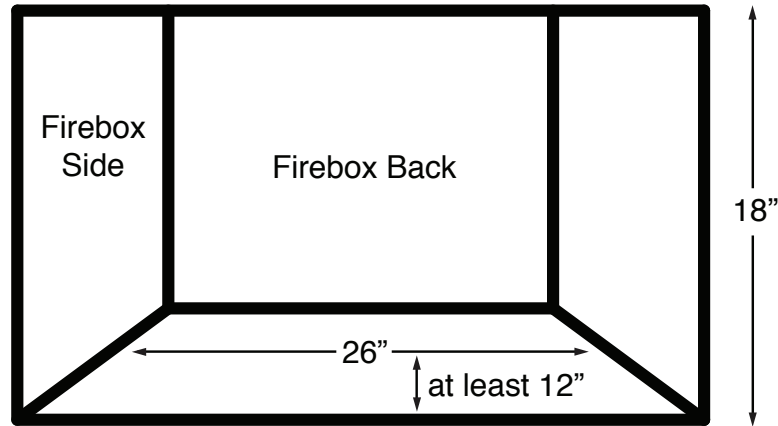

Figure 2
- Four (4) tempered glass panes.
- Two (2) appliance base screws and two (2) small pieces of flat metal (hold downs) inside a small bag.
- One (1) AA battery.If components are missing, contact Duraflame Consumer Affairs.
4. a1. If installing this unit in a firebox, check the firebox dimensions to ensure that they are at least equal to the minimum dimensions shown in Figure 2. The minimum clearances that the appliance originally required will be adequate for this installation. You will need the two (2) ¼" x 1 ½" masonry screws and the two hold downs provided for this step. Orient the unit so the door is on the left and the igniter and shutoff knob are on the right. Remove the two back legs by unscrewing them. Install the two hold downs on each leg and reinstall the back legs. Place the burner / base in a solid-fuel-burning masonry fireplace, a UL127 factory-built fireplace, or an approved (to ANSI Z21.92) ventless firebox, centered left to right on a level surface. When it is positioned properly, mark the screw locations through the screw-down holes in the hold downs. If you are installing the appliance in a brick-bottomed fireplace, mark the screw locations in a mortar joint between the bricks. Remove the appliance, and drill holes at the marked locations using a 3/16" masonry drill bit. Replace the appliance, and attach it to the fireplace floor using the masonry screws. a2. For this appliance to function properly, the burner / base must be stable and level. If the floor of your fireplace is uneven or out of level, you must unscrew or screw down the legs so the unit ends up level and not wobbly. a3. Install the four glass panes in the slots on the unit (see Figures 3-6). The small panes go on the sides and the large panes go in the front and back. a4. As an option you can place loose decorative glass or small rocks in the areas between the front glass (or back glass or both) and the burner. Make sure the top level of the loose material is not higher (could be lower) than the top of the burner. The material has to be larger than 3/16" in size and smaller than 1" in size for each piece. These materials could be purchased from your supplier or at the store you bought the unit from and could be made from glass or stone as long as they are non combustible and they can withstand high temperatures.